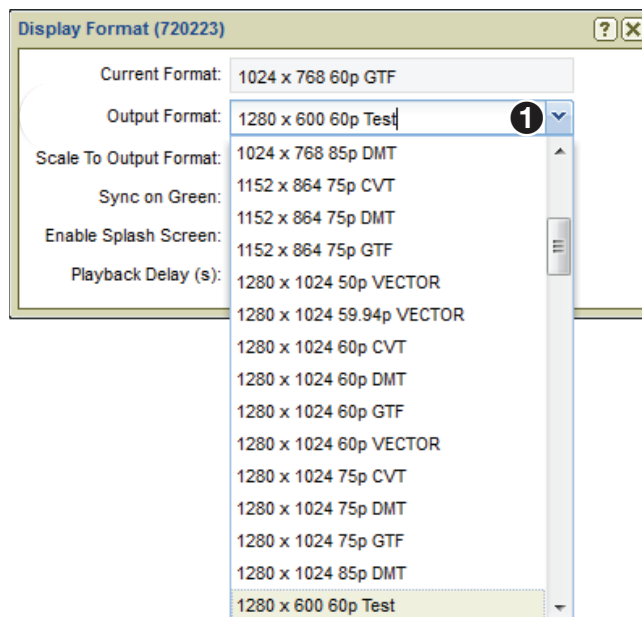

Figure 151. Display Format Menu
16. From the **Actions** menu bar at the bottom of the **Devices** page, click **Format**. The **Display Format** dialog box opens (see figure 151).
17. Select the new display format created in step 13 from the **Output Format** drop-down list (see figure 151, ①). The new display format is applied and the image is displayed.